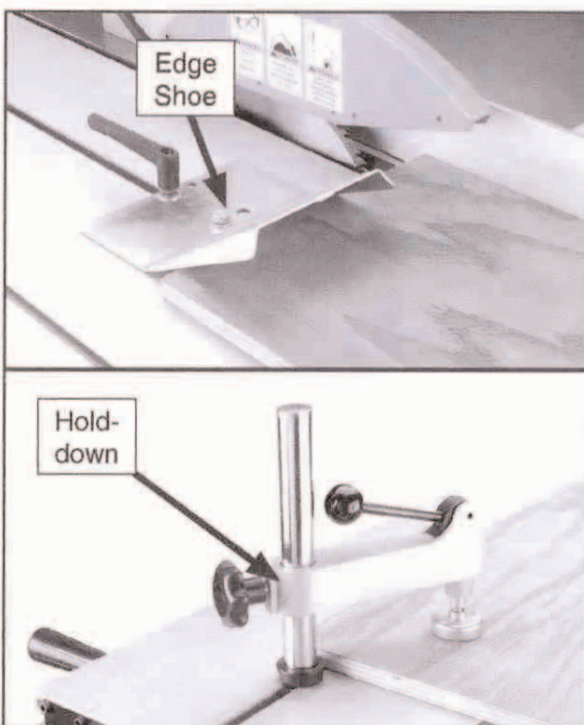

Figure 52. Edge shoe and hold-down placement.
6. When ripping irregular shaped stock, wedge the leading edge under the edge shoe (Figure 52), slide the hold-down into place as shown in Figure 52, and clamp the stock firmly.